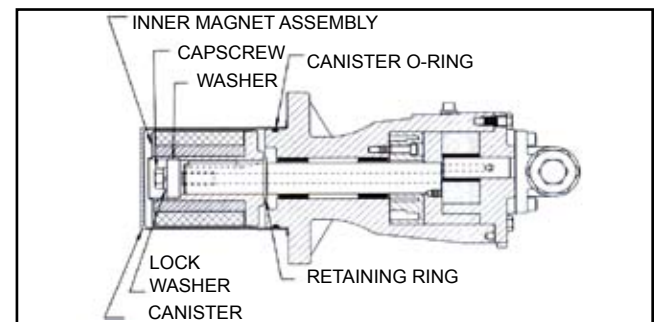

FIGURE 34
3. Install the external retaining ring and key on the pump shaft. Slide the inner magnet assembly onto the shaft so that it butts against the retaining ring. Install the washer, lock washer and capscrow to secure the magnet **See Figure 34**. Insert a brass bar through a port between two rotor teeth and tighten capscrow.